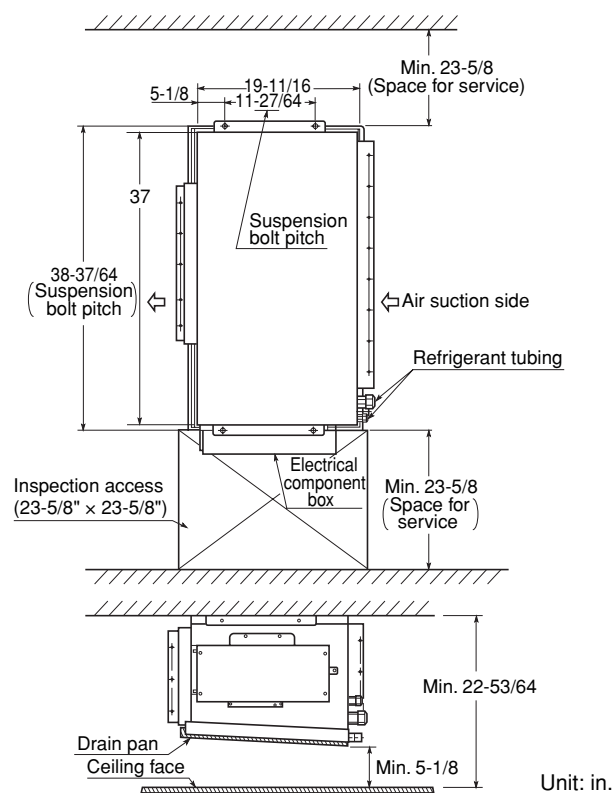

Fig. 3-77
- The minimum space for installation and service is shown in Fig. 3-77.
- (1) When placing the unit inside the ceiling, determine the pitch of the suspension bolts referring to the dimensional data given previously. (Figs. 3-77 and 3-78)